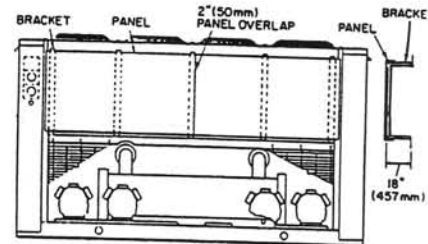

Fig. 10 – 30GF 105-120 with Wind Baffle Accessory
**Step 1** – Wind baffles are available as an accessory and they must be field installed for 30GF 085-240 units to operate at ambient temperatures below 0° C (See fig. 10 for details of installation).